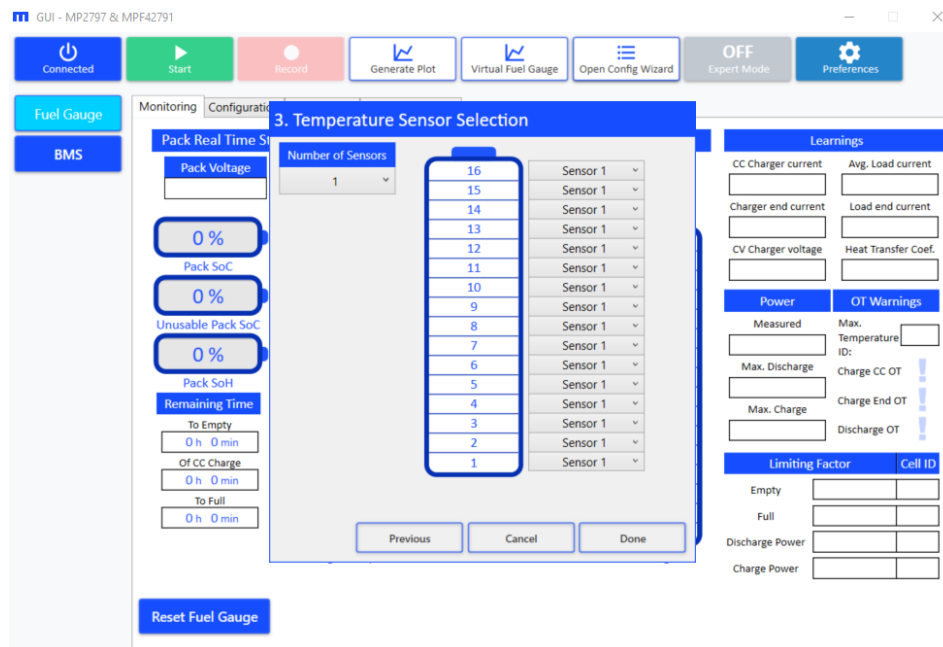

Figure 36: Configuration Wizard 4 – Temperature Sensor Selection
- a. Nominal charge constant voltage: Set this value to the nominal voltage applied to the battery pack by the external charger during constant voltage (CV) charge.
- b. Nominal charge constant current: Set this value to the nominal current applied to the battery pack by the external charger during constant current (CC) charge.
9. The Temperature Sensor Selection window should automatically open. Set the number of temperature sensors used by the fuel gauge. In addition, set a selector for each cell, which selects which temperature sensor is associated with which cell (see Figure 36).